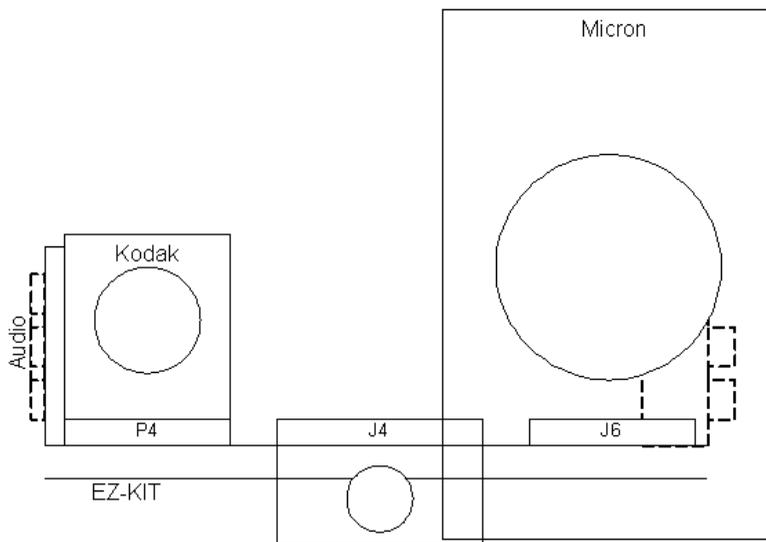
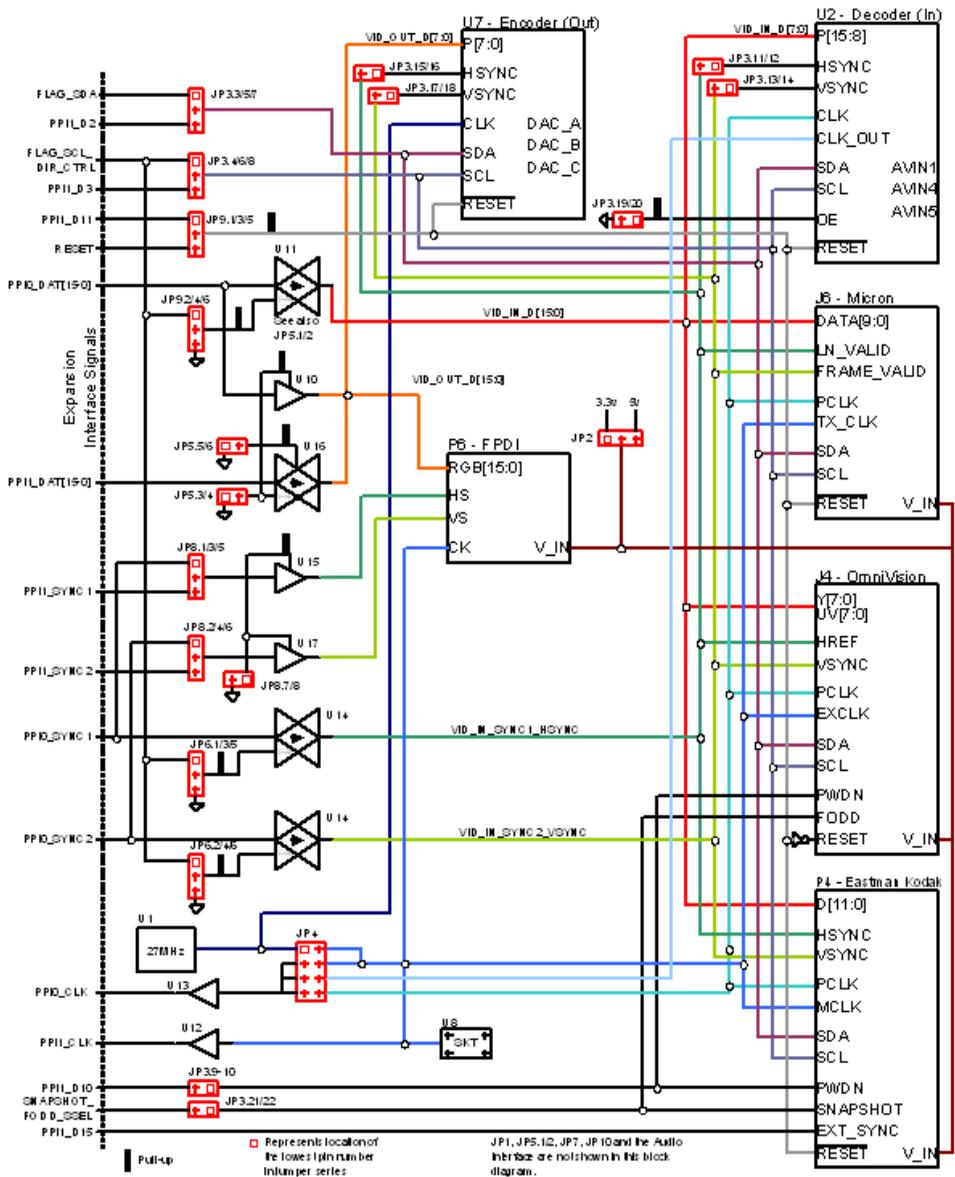

Figure 1-1. Camera Orientation
Figure 2-1. Block Diagram
3. Set the jumpers on the A-V EZ-Extender board. Use the block diagram in Figure 2-1 on page 2-3 in conjunction with “Jumpers” on page 2-7.
For an audio application, the Blackfin A-V EZ-Extender uses the AD1836A multichannel 96 kHz audio codec. The AD1836A is a high-performance single-chip codec that provides three stereo digital-to-analog converters (outputs) and two stereo analog-to-digital converters (inputs) using ADI’s patented multi-bit sigma-delta architecture. The board includes a serial peripheral interface (SPI) port, allowing the processor to adjust volume and other parameters. For a general overview of the audio interface connections, see Figure 2-1 on page 2-3. For more detailed information, see “A-V EZ-Extender Schematic” on page B-1.
The Blackfin A-V EZ-Extender supports video input and output applications with an on-board video encoder and decoder. The ADV7179 video encoder provides up to three output channels of analog video, while the ADV7183B video decoder provides up to three input channels of analog video. Both the encoder and the decoder connect to the PPI0 of the expansion interface, while the encoder also can connect to the PPI1 (if the processor has two PPI ports). For a general overview of the analog video interface connectors, see Figure 2-1 on page 2-3. For more detailed information, see “A-V EZ-Extender Schematic” on page B-1.
The Blackfin A-V EZ-Extender has three right-angle connectors (J4, J6, and P4) with the control signals necessary to interface with three different manufactures camera evaluation modules. For a general overview of the camera module interface connections, see Figure 2-1 on page 2-4. For more detailed information, see “A-V EZ-Extender Schematic” on page B-1. Figure 1-1 shows the orientation of the camera modules, as each camera connects to the board.
The flat panel display interface (FPDI) consists of a 31-pin DB9 connector linked to the PPI port and frame sync signals of the processor. For a general overview of the display interface connections, see Figure 2-1 on page 2-4. For more detailed information, see the “A-V EZ-Extender Schematic” on page B-1.
A block diagram of the Blackfin A-V EZ-Extender is shown in Figure 2-1.
In Figure 2-1, unidirectional buffers are shown as triangle symbols, while bidirectional buffers are shown as two overlapping triangles. For both types of buffers, the output-enable signal comes out of the top and is active `LOW`. For the bidirectional buffers, a second signal for the direction is shown. When this net is pulled `HIGH`, the buffer is driving in the direction of the arrow in the center, when `LOW`, the buffer is driving in the opposite direction.
The PPI_CLK signals of the PPI0 and PPI1 are set up using the clock setup jumpers. Table 2-5 shows the results of the jumper connections. For more information about the clock settings, refer to Figure 2-1 on page 2-4.